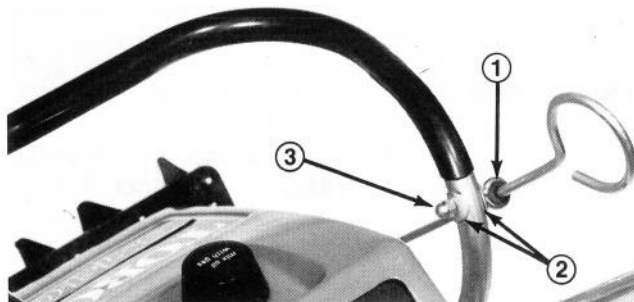

Figure 2
2. Mount vane control to lower handle with eye-bolt, two curved washers and a capnut (Fig. 2). Note position of washers.